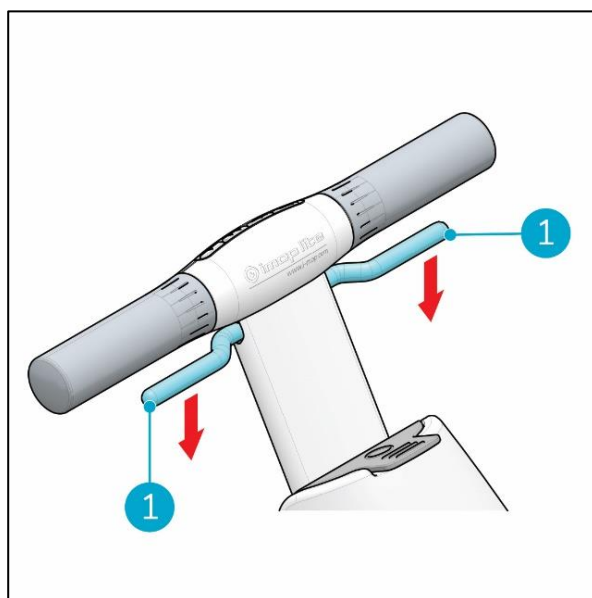

Figure 20
Releasing the trigger (Figure 20, pos 1) will automatically stop the i-mop Lite.